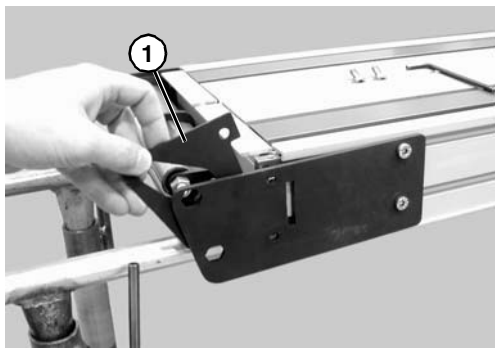

Figure 56
3. Remove the inner spacer (**Figure 56, item 1**).